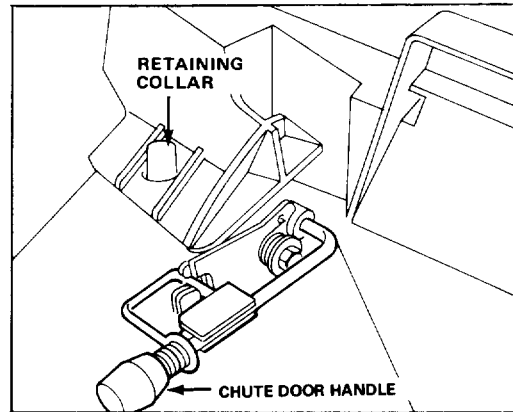

Figure 10
2. Assure chute door handle is fully forward and lockout lever is released into latch (Fig. 10).
3. **INSTALLING BAG**—Slide hole in bag frame onto retaining collar on housing (Fig. 10) and set rear of bag frame onto support rod on handle.
5. **EMPTYING BAG**—Stop engine and wait for blade to stop. Move chute door handle forward until it locks in the latch (Fig. 10). Grasp